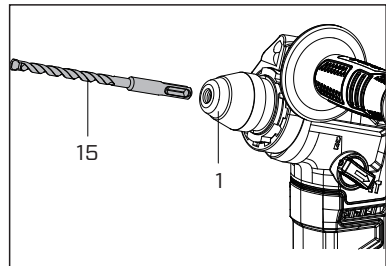

Fig.6
To remove, pull the Chuck Cover(1) down all the way and pull the Drill Bit(15) out (Fig.6).